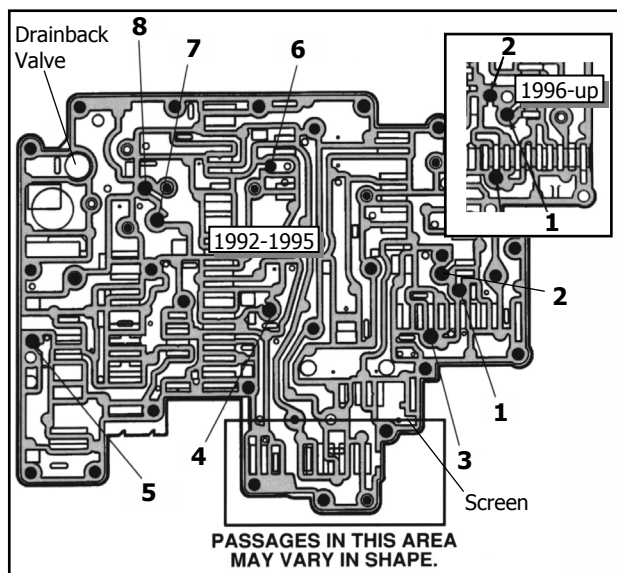

Figure 3 – Step 11
Step 11. Reassemble the valve body insuring that the solenoid screen and drain back valve are in place as shown in **Figure 3**. Reinstall check balls as directed below. Install supplied valve body gasket and torque stiffener plate bolts to 110 inch-pounds. **Note:** Carefully match your plate with the gaskets supplied to be sure you're installing the correct one. Make sure that the gasket is not blocking any holes in the plate.